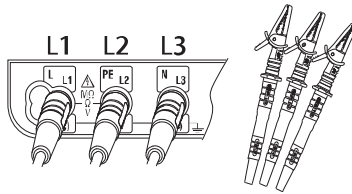

Fig. 46
- ▲ If earth resistance of auxiliary earth spikes is too large, it may result in inaccurate measurement. Make sure to stick the auxiliary earth spike and H(C) into the moist part of the earth carefully, and ensure sufficient connections between the respective connections. High auxiliary earth resistance may exist if “ R_S Hi” or “ R_H Hi” is displayed during measurements.
2. Insert the Test Leads into the instrument. (Fig.46)